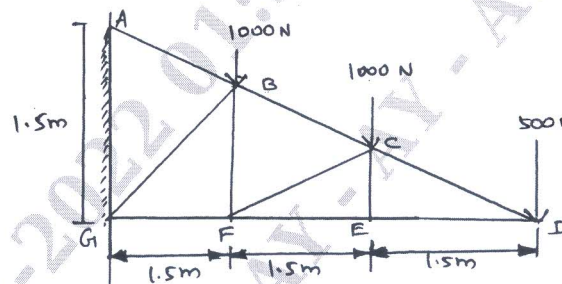

Fig.Q8(b)
b. Fig.Q8(b) shows a cantilever truss having a span of 4.5 meters. It is hinged at two joints a wall and is loaded as shown in Fig.Q8(b). Find the forces in all the members.